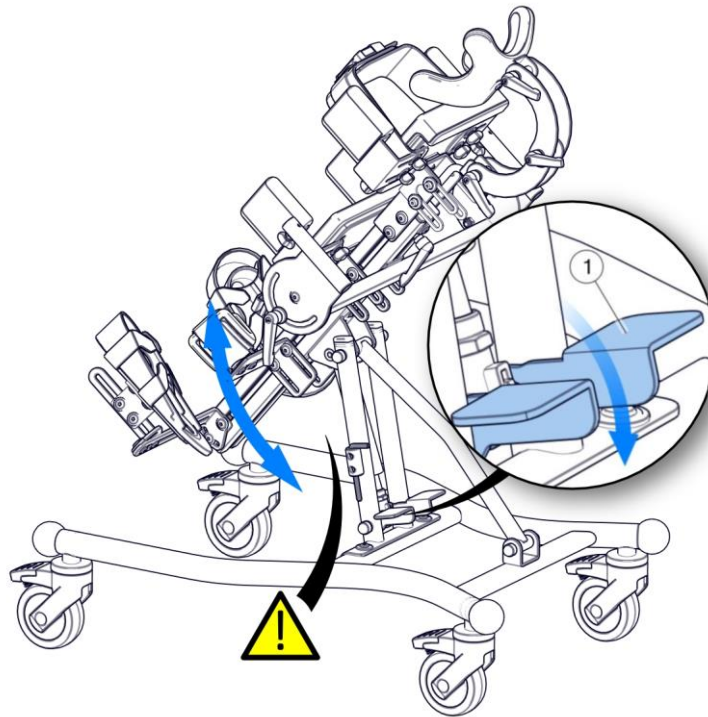

Figure 16
7.9. Vertical position – Figure 16